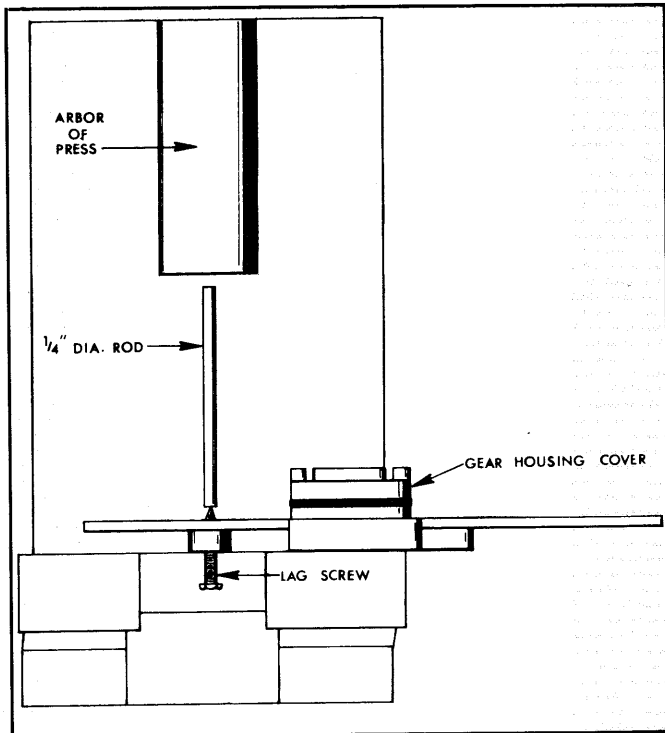

Figure 9—Removing Shift Rod Seal
- C. Remove shift rod seal by threading a 5/16" diameter lag screw in shift rod seal. Press seal and lag screw out of cover by using a press and 1/4" diameter rod as shown in figure 9.